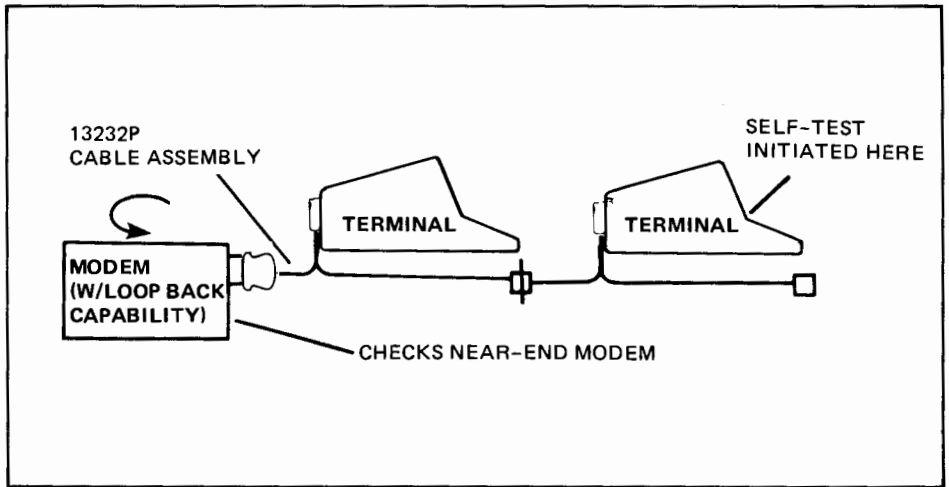

Figure 6-15. Near Modem Test Setup
1. With the system connected for operation (figure 6-15 or 6-16) set the modem for loopback operation.